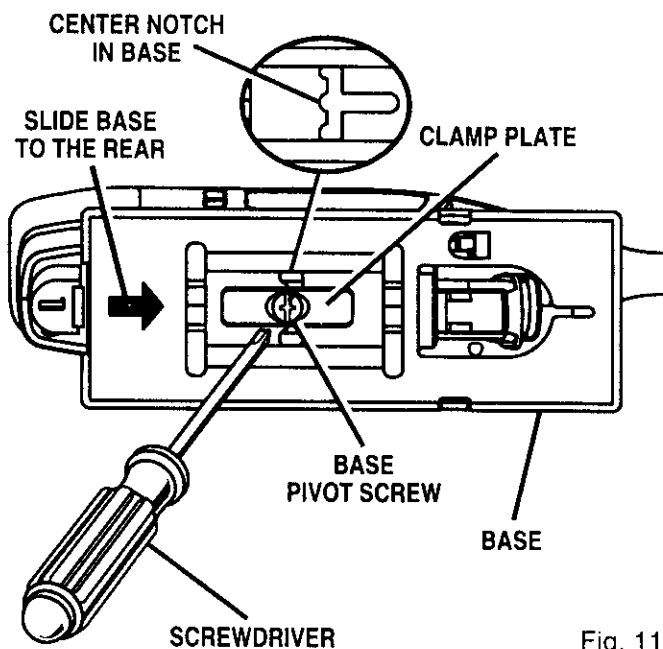

Fig. 11
See Figure 11.
- Using a screwdriver, loosen base pivot screw and rotate base 180° as shown in figure 11.